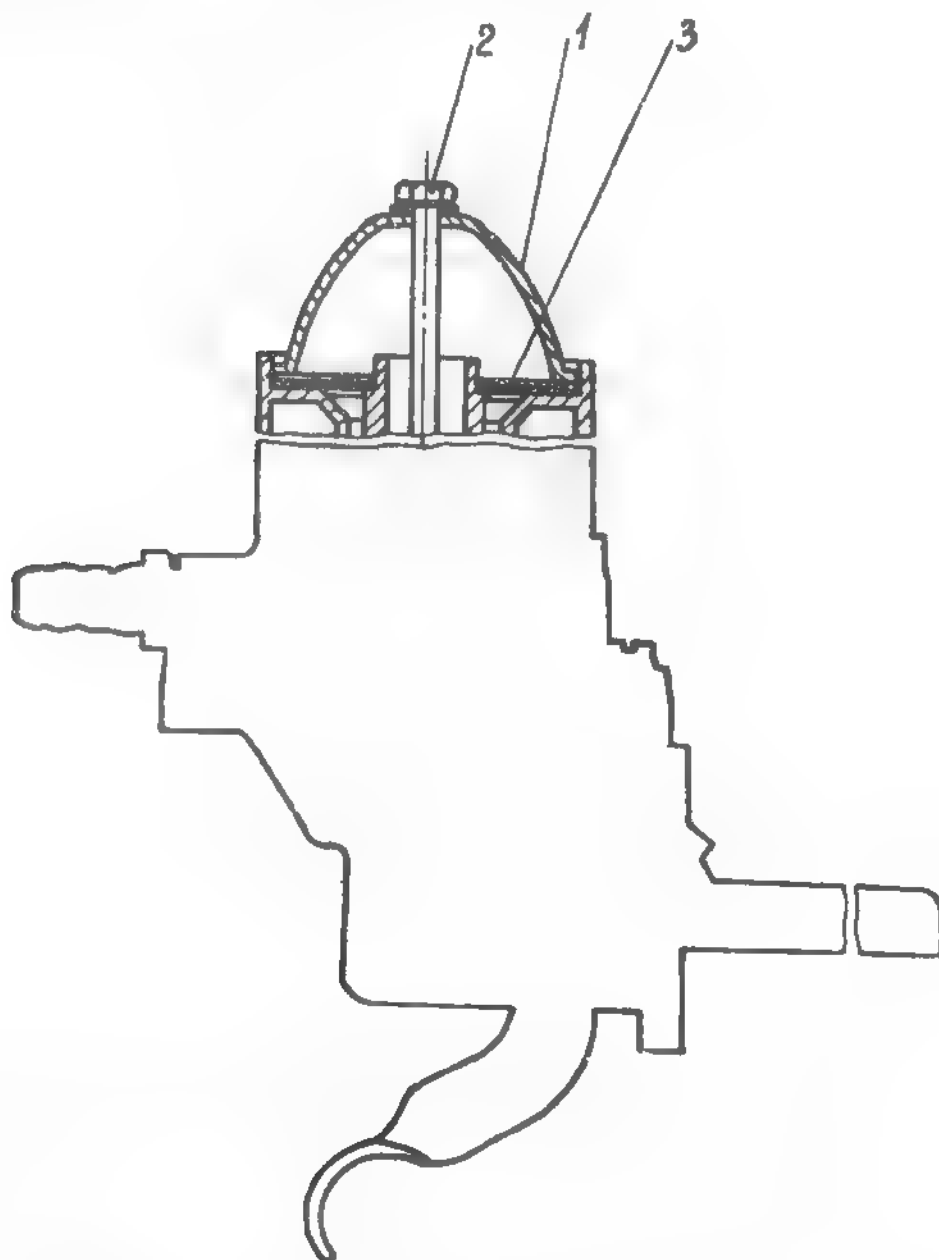

Fig. 2.20. FUEL PUMP
- Unscrew bolt (2), fastening filter cover (3) (see fig. 2.20), and remove successively: pump filter cover, sealing gasket and filtering strainer (3).